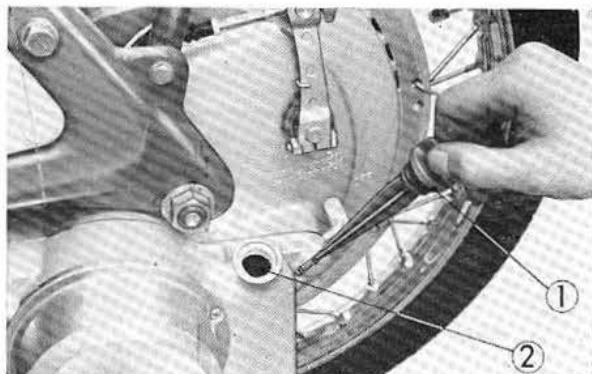

Fig. 1-1 ① Oil level gauge ② Oil filler opening
- (1) Remove the oil level gauge and unscrew the drain plug at the bottom of the crankcase and drain the engine oil completely. Engine oil will drain more quickly and thoroughly if the engine is still warm.
- (2) Reinstall the drain plug securely and refill the crankcase with new engine oil. (Fig. 1-1, 2)